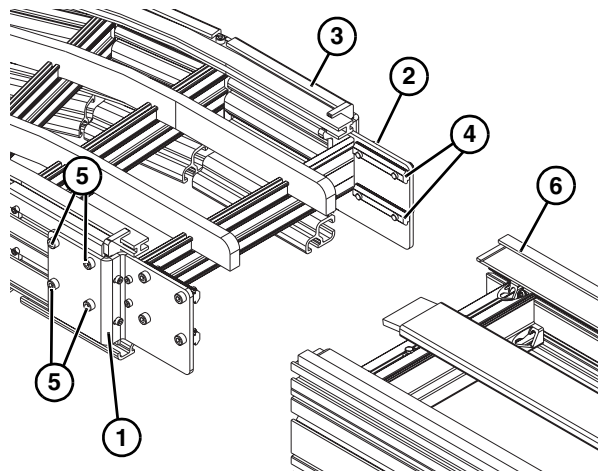

Figure 10
Typical Curve Connecting Components (**Figure 10**)
1. For joining curved to straight sections, install left offset connecting plate (**Figure 10, item 1**) and right connecting plate (**Figure 10, item 2**) onto curved section (**Figure 10, item 3**) with two drop-in tee bars (**Figure 10, item 4**) and four M6x16 socket head screws
(Figure 10, item 5), making sure the straight frame section is flush to the curve section crossmember.
- Secure straight section (Figure 10, item 6) onto curved section with the same hardware as previous step. Tighten all socket head screws to 60 in-lb (7 Nm).